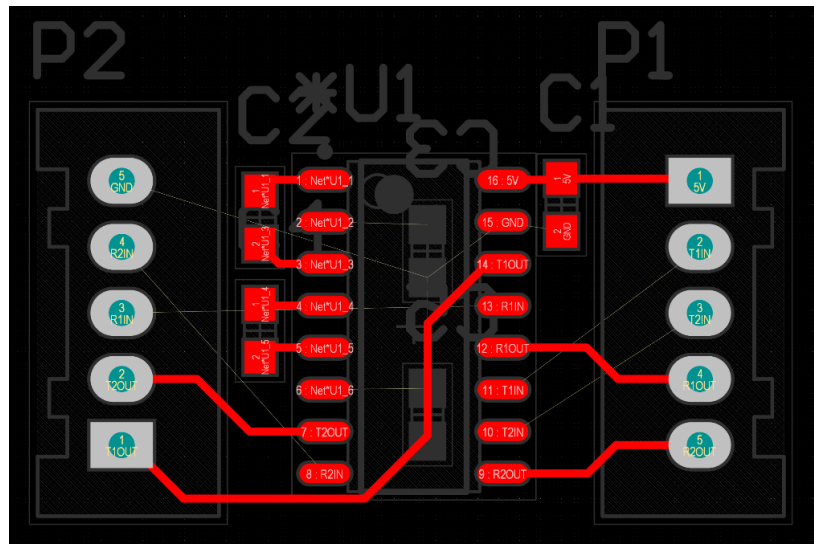

Figure 13: Initial Tracing of Top Layer
22. Complete the traces shown in Figure 13. Notice that as you make certain traces, the paths of other traces get cut off. (Note: we will ignore connecting the GND nodes together in this part since there is a method to connect them that will be covered later) (Note #2: no angles should ever be less than or equal to 90 degrees unless absolutely necessary)